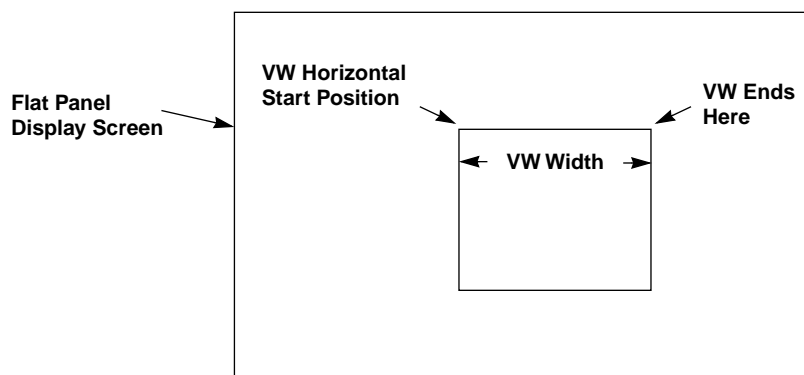

Figure 12-2. Flat Panel Display Screen with VW
- Contains a hex value used to define the VW width for each scanline, when the VW is enabled. The hex value represents the VW width as it is to be displayed, before on-chip upscaling. (Refer to Figure 12-2.)